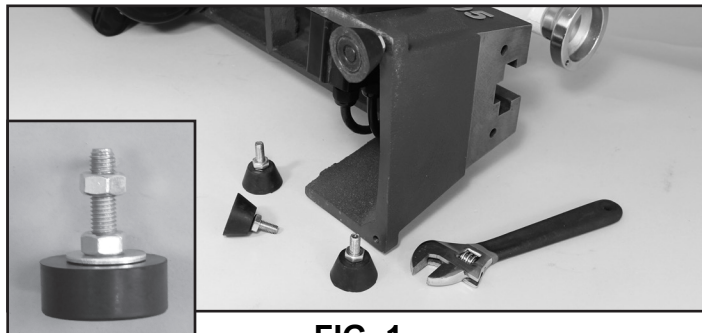

FIG. 1
1. Screw the rubber feet onto the four corners of lathe bed casting. The threaded post's upper hex nut will secure and adjust the feet height, if necessary, if the bench is not level. FIG. 1.